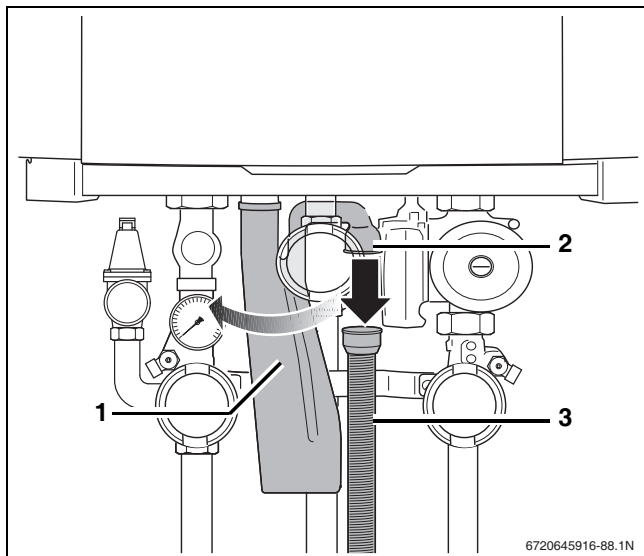

Fig. 90 Disconnecting the condensate trap hose
- Turn the condensate trap a quarter rotation counterclockwise (→ fig. 90).